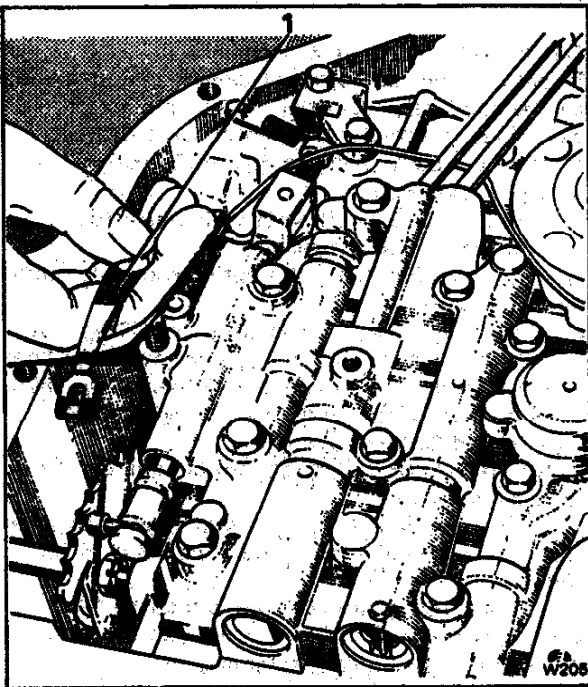

Fig. T62 Fitting the detent spring and roller
9. Fit the detent spring and roller assembly (see Fig. T62); fit the securing screw and torque tighten to the figures quoted in Chapter P.